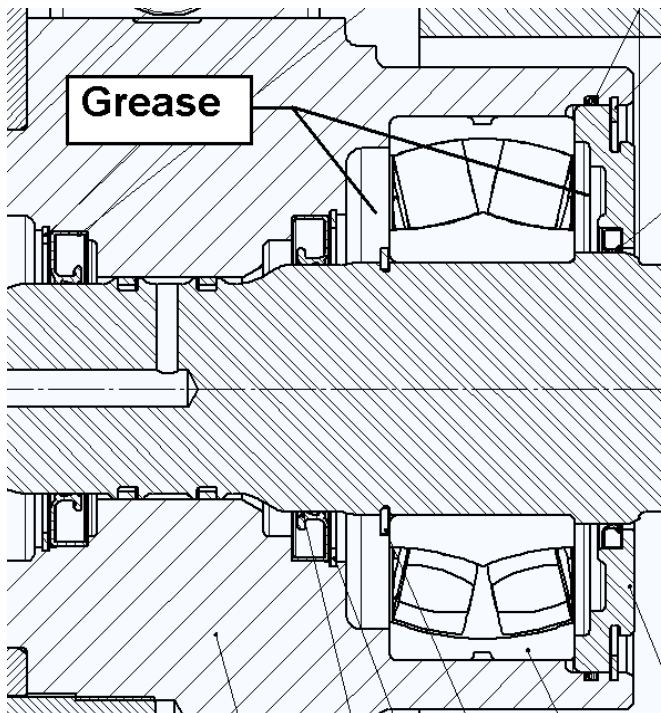

Figure 2
1. Using bearing heater, heat I.D. of bearing (Item 13) to 250 °F. Using protective gloves, slide bearing onto shaft (Item 8) until it contacts the shoulder of shaft. See Figure 2.
2. Pack end of endcover with the retaining ring with **MOBILITH SHC 220 grease only** to 20% capacity on outer diameter. See figure 2 for location where grease should be packed during this step.